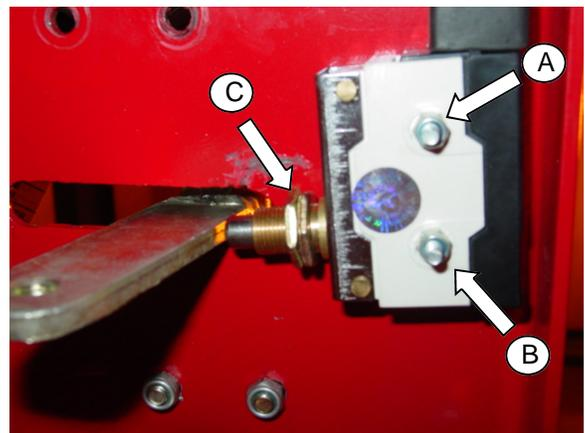

Figure 18
**Safety System Adjustments** (See Figure 18)